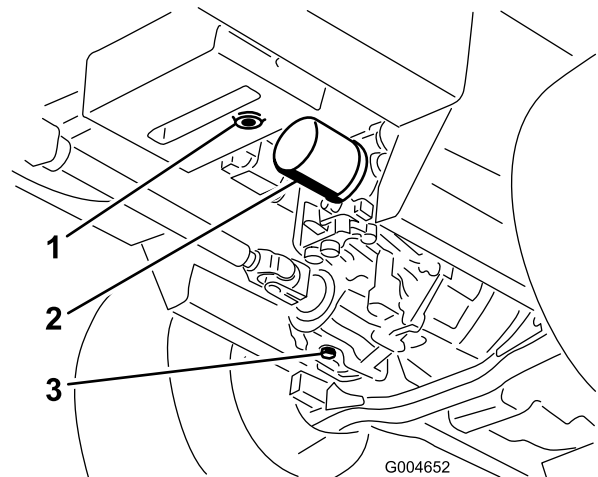

Figure 61
3. Place a large pan under the hydraulic reservoir and transmission case and remove the plugs, draining all of the hydraulic fluid (Figure 61).
4. Clean the area around the hydraulic fluid filter and remove the filter (Figure 61).